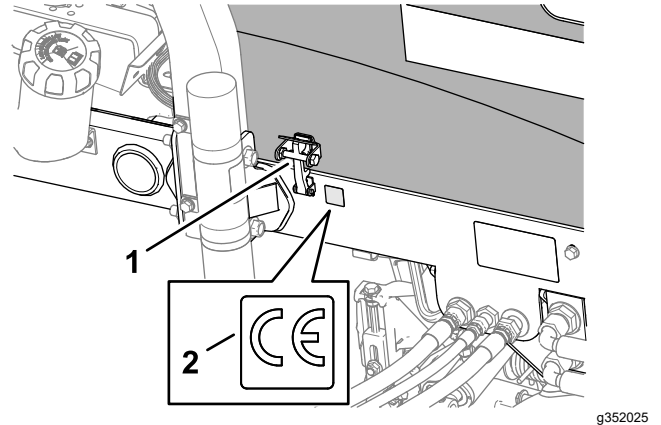

Figure 37
3. Wipe clean the left frame near the hood lock with alcohol, and allow the frame to dry (Figure 37).
4. Remove the backing and apply the CE decal to the frame as shown in Figure 37.